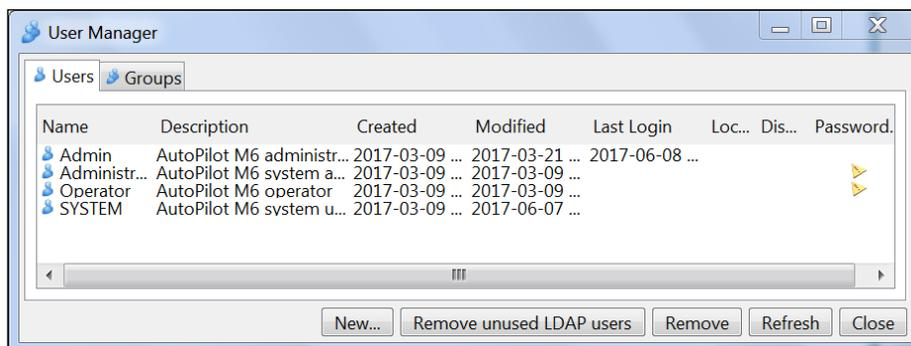

Figure 4-5. User Manager: Users Folder
Users: The **Users** folder (Figure 4-5) is the default view. It lists all the registered users in your M6 Network. It provides information about the user (Table 4-3) and links you to individual user profiles and status. Click a user record to view the user properties.
1. From the *User* folder (Figure 4-5) in the *User Manager* click **New**. The *New User* screen is displayed.